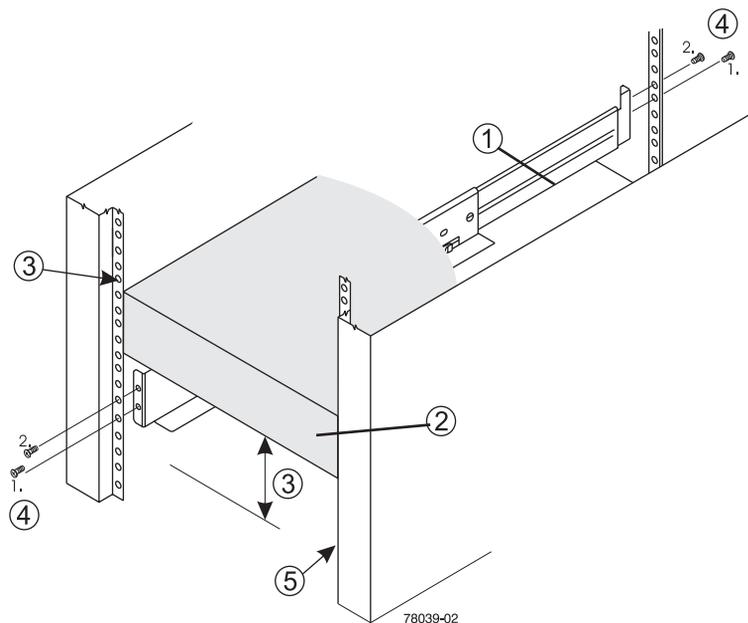

Figure 1-21 Rail Mounting Overview Example
4. Position and secure the support rails in the rack using the information in Figure 1-21 on page 27.